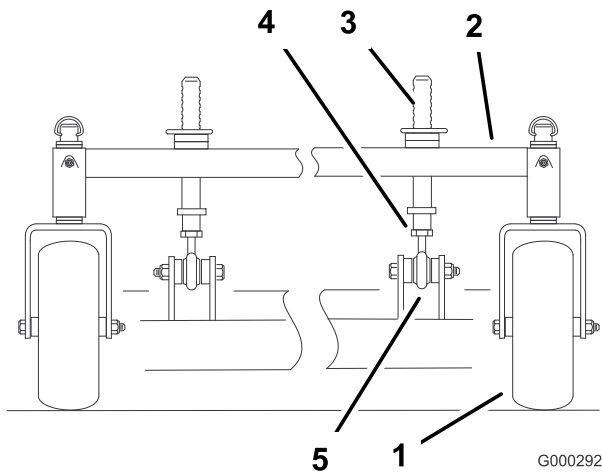

Figure 68
1. To change the front-to-rear pitch, the front height-of-cut posts can be adjusted (Figure 68).
2. To raise the front of the deck, loosen the jam nut and rotate the front pin clockwise (Figure 68).
3. To lower the front of the deck, loosen the jam nut and rotate the front pin counter clockwise (Figure 68).
7. Tighten the jam nuts (Figure 68).